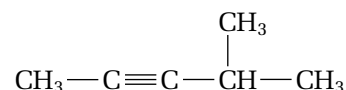

Figure 13.32 Can you name this alkyne?
- Write the suffix -ene for alkenes and -yne for alkynes. (See Figure 13.32 for practice.)